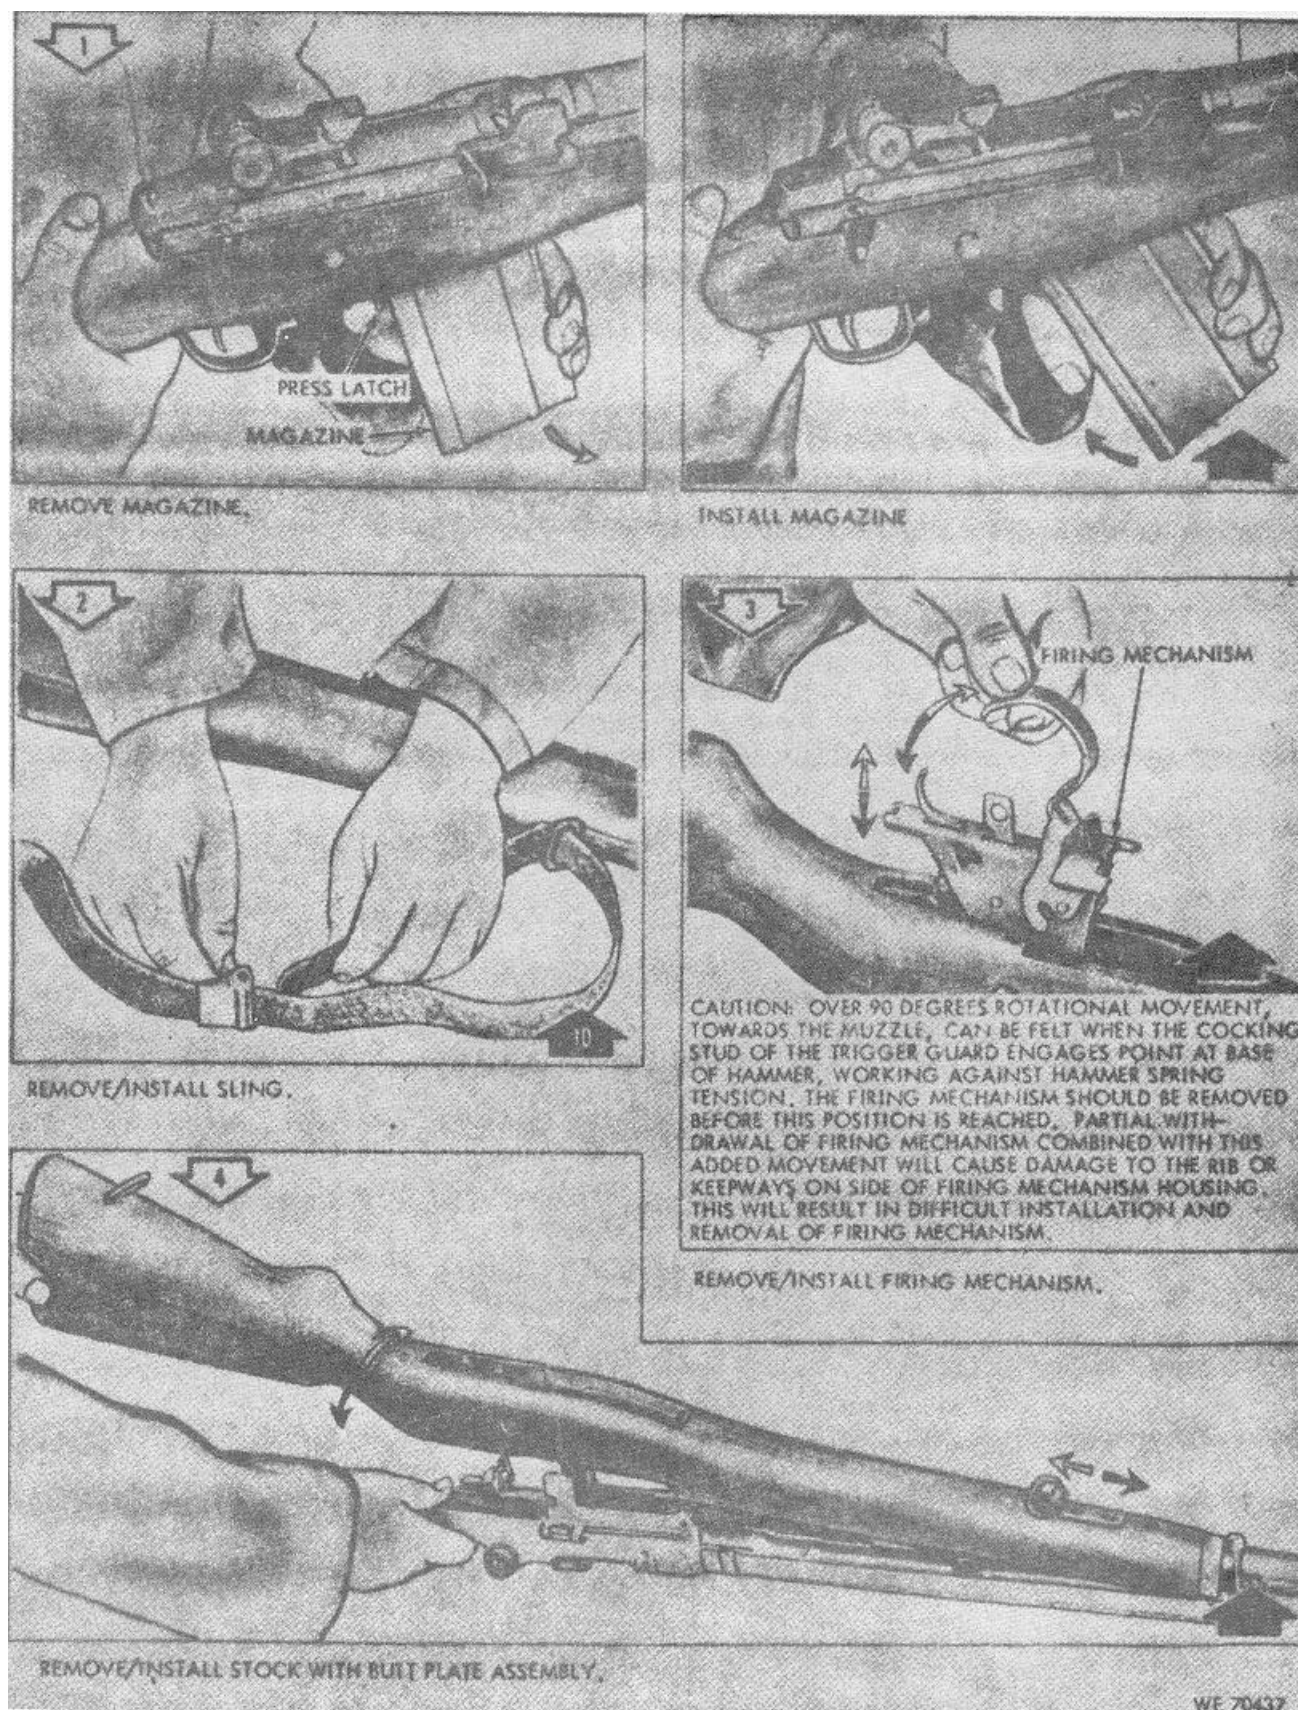
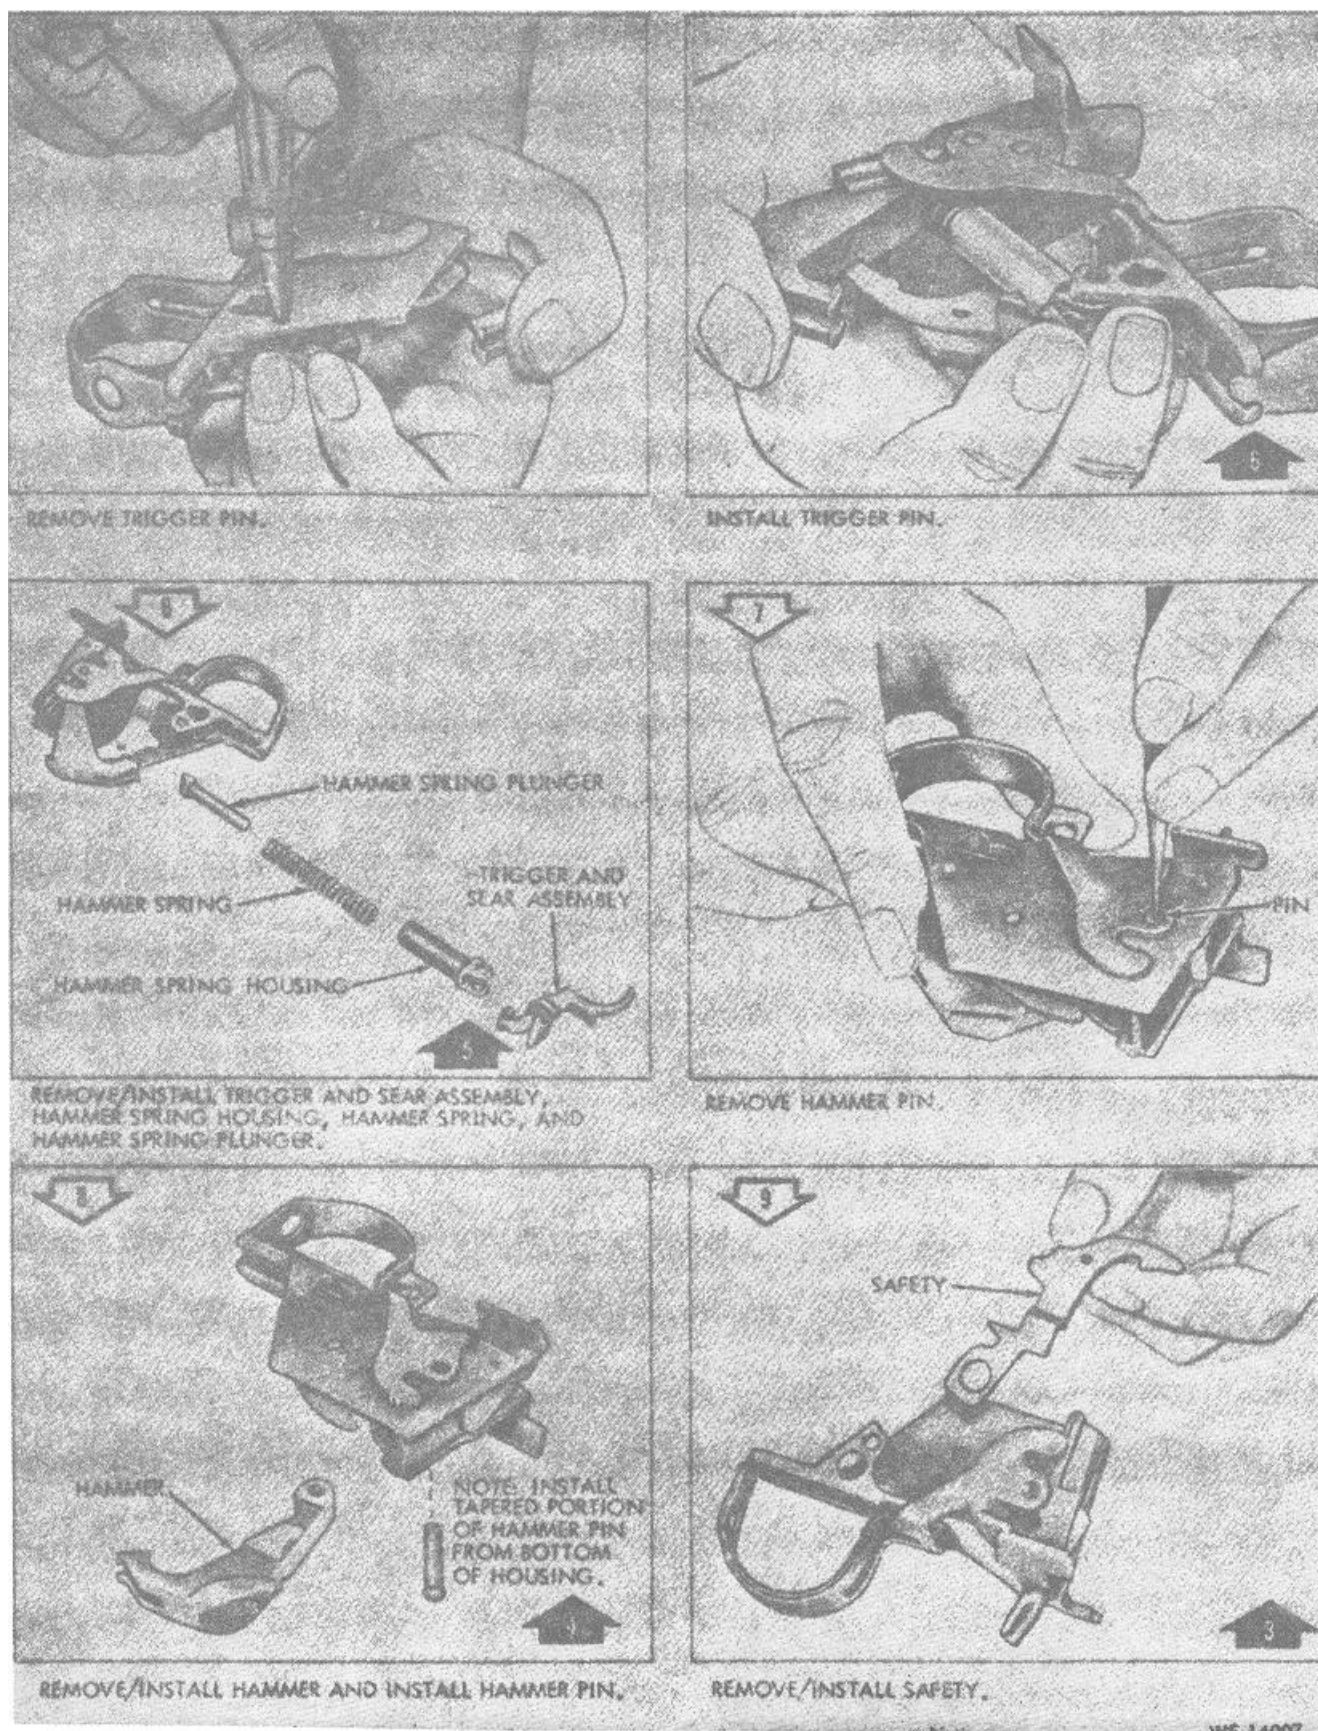

Figure 2-1. Disassembly/assembly of rifle components-partial exploded view.
Figure 2-2. Disassembly /assembly of firing mechanism.
- b. Removal. Refer to figures 2-1 thru 2-3.
- c. Disassembly. Refer to figures 2.2 thru 2-3.
d. Cleaning. Remove excess lubricant and contaminants from metal parts with a clean cloth or brush saturated with dry cleaning solvent (SD) or rifle bore cleaning compound (RBC). Wipe dry with a clean cloth.
g. Assembly. Refer to figures 2-1 through 2-3.
h. Installation. Refer to figures 2-1 through 2-3.